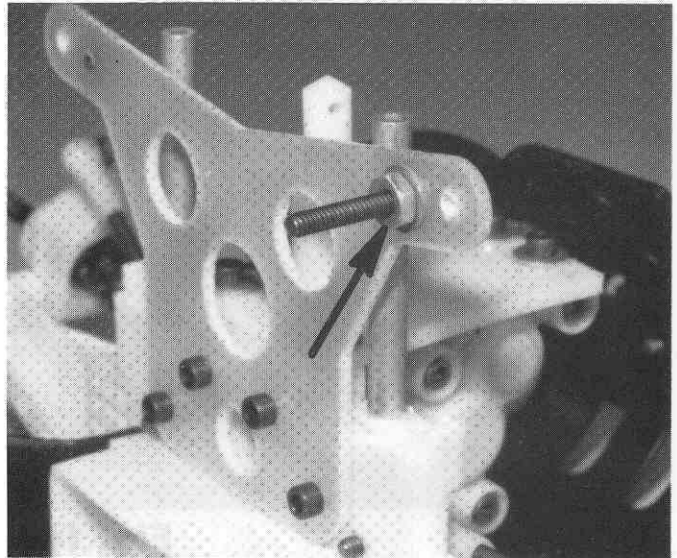

**Fig. 112**
□ **Fig. 112** Also in Bag #6-4 is the #6378 rear shock strut. Assemble this to the rear bulkhead with the four #6932 4/40 x 5/16" SHCS Allen screws, as shown.